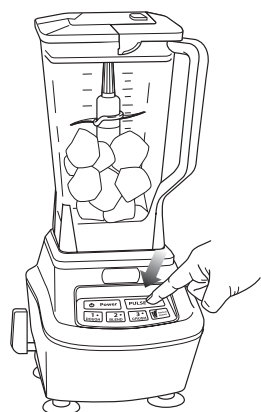

Fig. 6
- 9 Select the speed that best suits your needs. (Fig. 6)